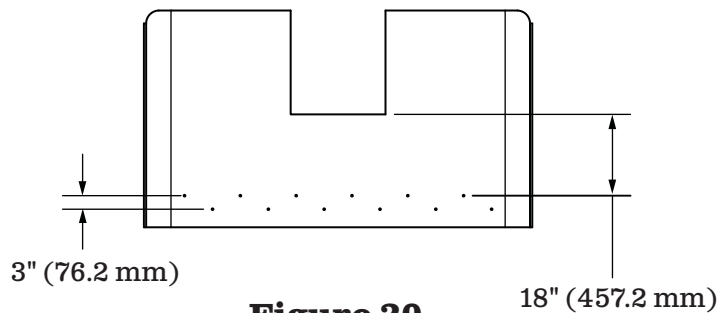

Figure 20
- 1) **Figure 20.** When hauling asphalt an alternate pattern using (12) 3/8" elevator bolts or 3/8" self-tapping screws is acceptable. Check location of cross members and lay out and mark a line a minimum distance of 18" from behind the doghouse and another row 3" further based on type of screw or bolt used. Fasteners must be staggered and a minimum 6" apart and 3" from the first score line.